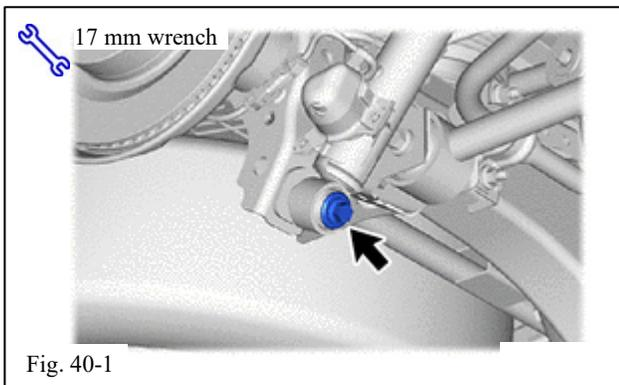

Fig. 40-1
- (c) Separate the OE Rr shock absorber from the Rr axle housing and remove the shock absorbers (Fig. 40-1).